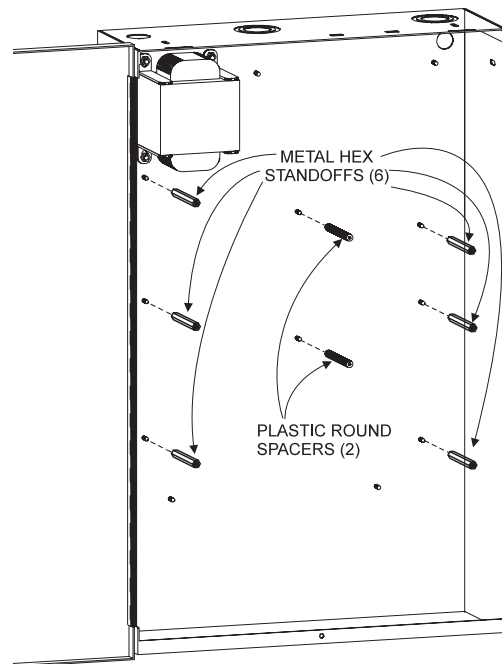

Figure 5
4. **Install the PC Board mounting metal hex standoffs and plastic spacers.** Mount the six PC Board metal hex standoffs and two plastic round spacers, as shown in Figure 5.